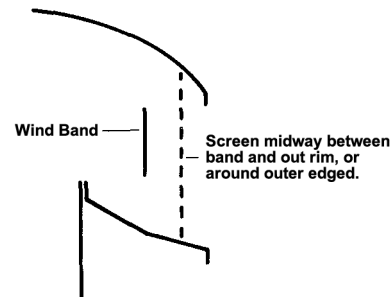

Figure 4 Proper Location of Spark Arrester Screen in Cap
1. PLACE the mesh between dome and skirt of top. It should be midway between the inner wind band and the outer edges. See Figure 4. Do not place the screen directly against the wind band.